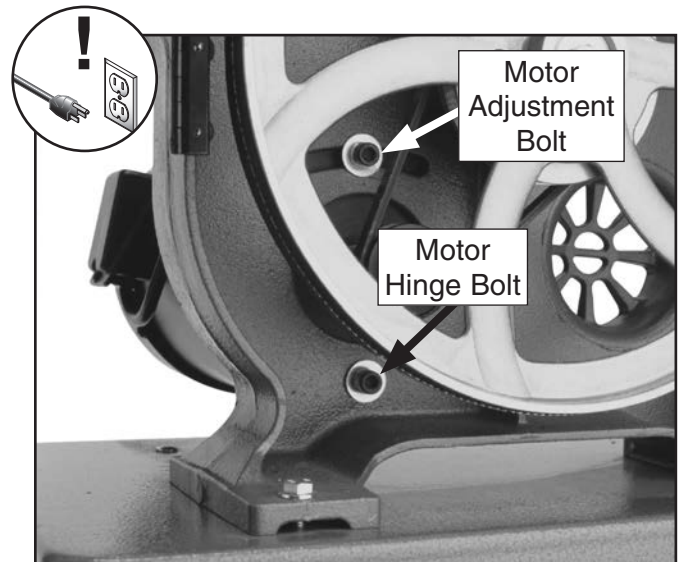

Figure 43. Motor mount bolts.
3. Loosen the motor mount bolts shown in **Figure 43**.